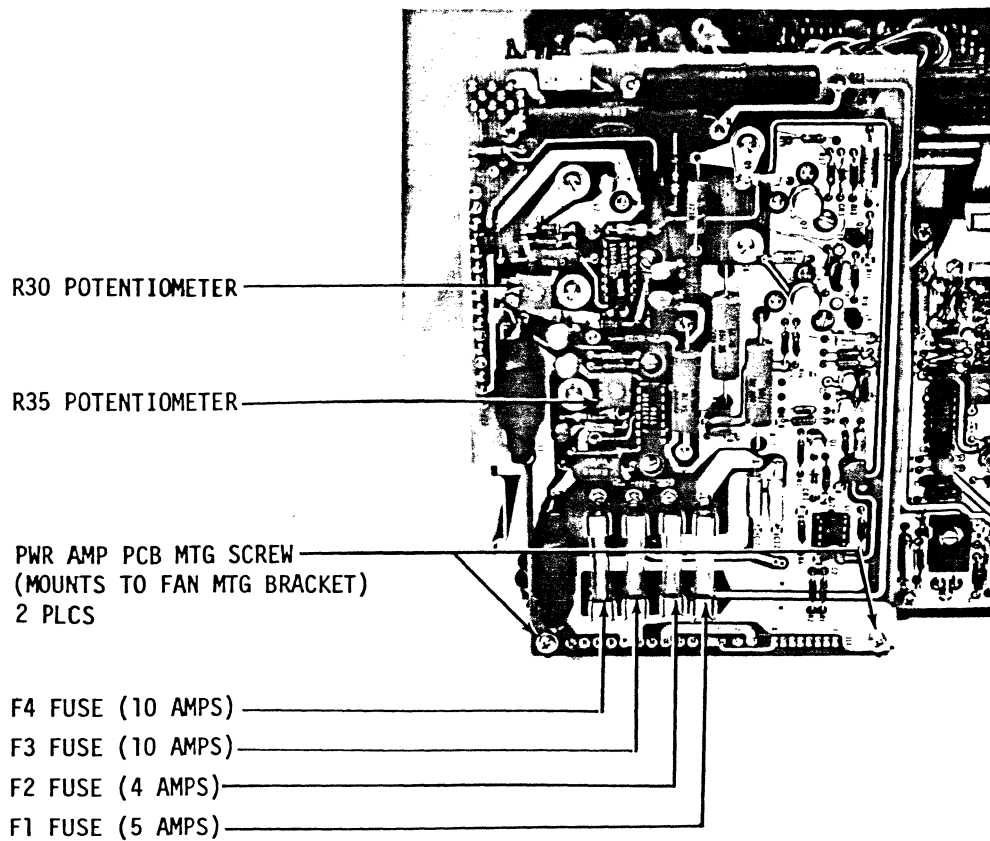
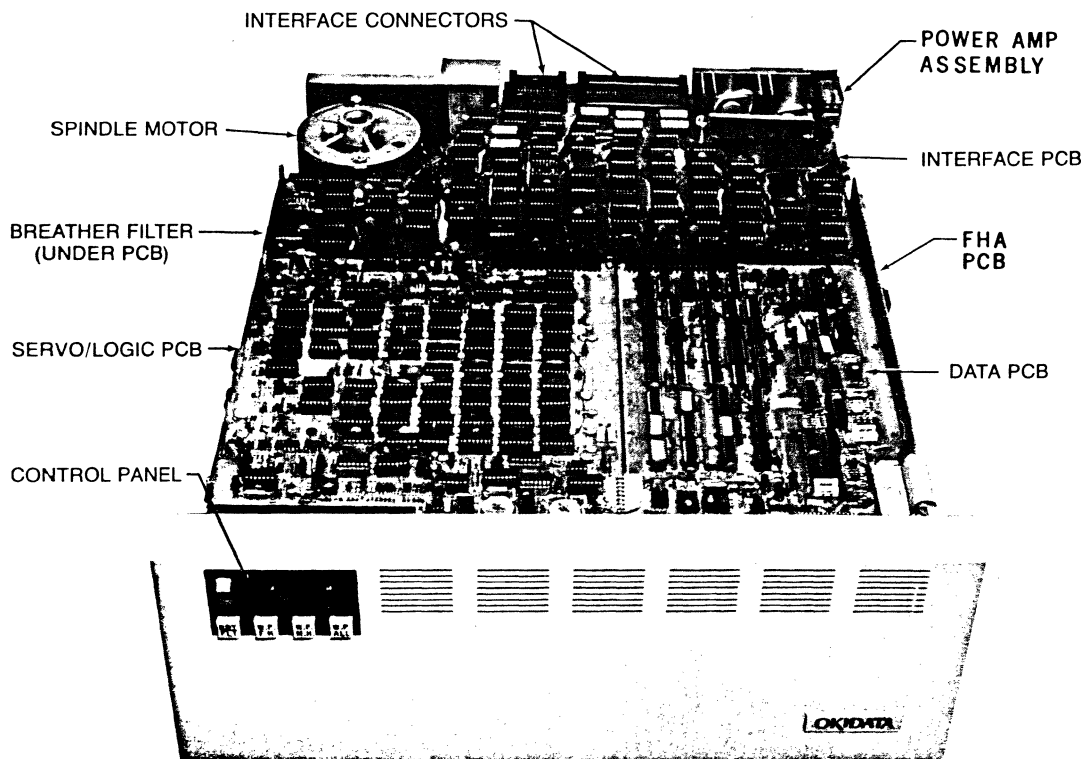

Figure 5-5
Figure 5-9
On the power amplifier and regulator board on the right rear corner of the unit (Fig. 5-9) there are 2 potentiometers 1R30 and 1R35 (Fig. 5-5). 1R30 is an adjustment for the -5.2V, 1R35 for +5.0V. (-2V is set by a 3 terminal regulator I.C., +32V and -32V are unregulated.)
b) Remove the two screws which mount the Pwr amp PCB to the fan mounting bracket. See Fig. 5-5. Disconnect all connectors from PCB.